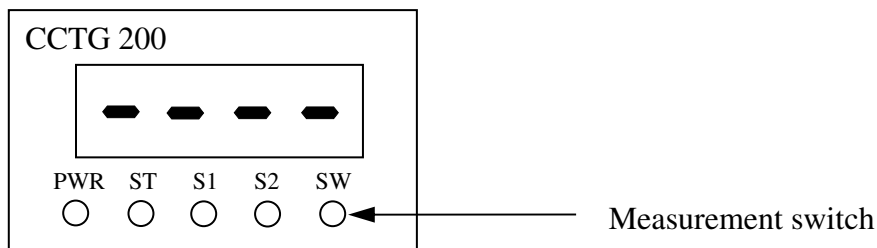
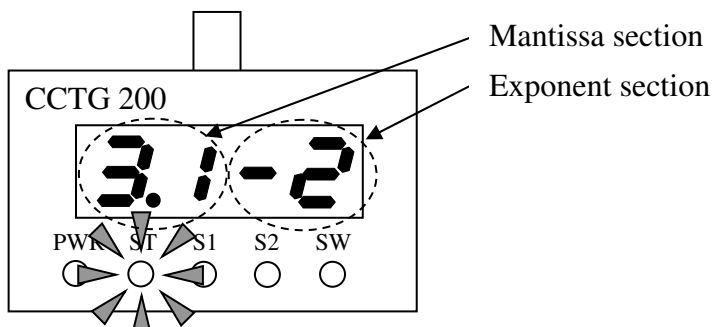

Fig. 8. Standby Mode Screen
Fig. 9. Pressure Measurement Screen
- (1) Measurement can be started when "----" is displayed in the main indicator (see "Fig. 8. Standby mode screen") using any of the methods described in "7.1. Starting Measurement".
- (2) Immediately after measurement is started, a low pressure may be displayed until the discharge stabilizes.
- (3) When pressure measurement is started, the ST indicator changes to green (during tough mode) or white (off mode), and the main indicator changes to the pressure display. The two upper digits represent the mantissa section and the two lower digits represent the exponent section. "Fig. 9. Pressure Measurement Screen" is 3.1×10^{-2} .